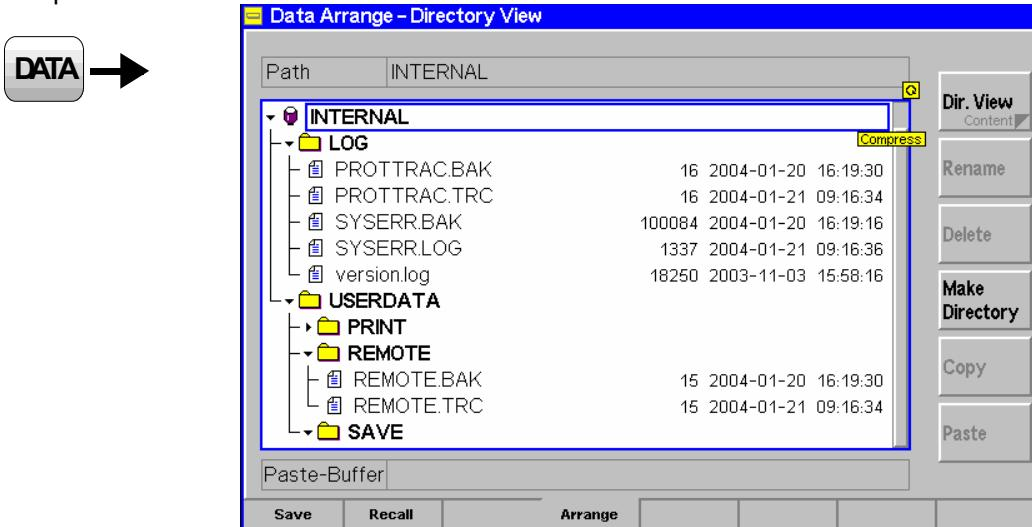

Fig. 4-19 Data – Arrange menu
*Dir. View/Content* toggles between the directory view (see Fig. 4-19 above) and the overview of function groups and test modes contained in a configuration file (\*.SAV). The *Content* view is available for configuration files only: